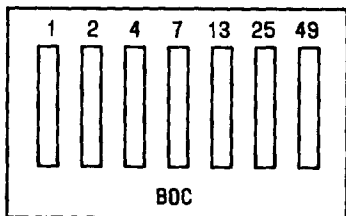

Fig. 2—J99343BM Switches
2.03 Initial settings may be found on the CLR for existing circuits. Prescription settings are provided in Part 4 for new circuits or existing circuits where settings are not available. For the J99343BM, the control that must be adjusted is the build-out capacitance (BOC) switch. Figure 2 shows the BOC switch.